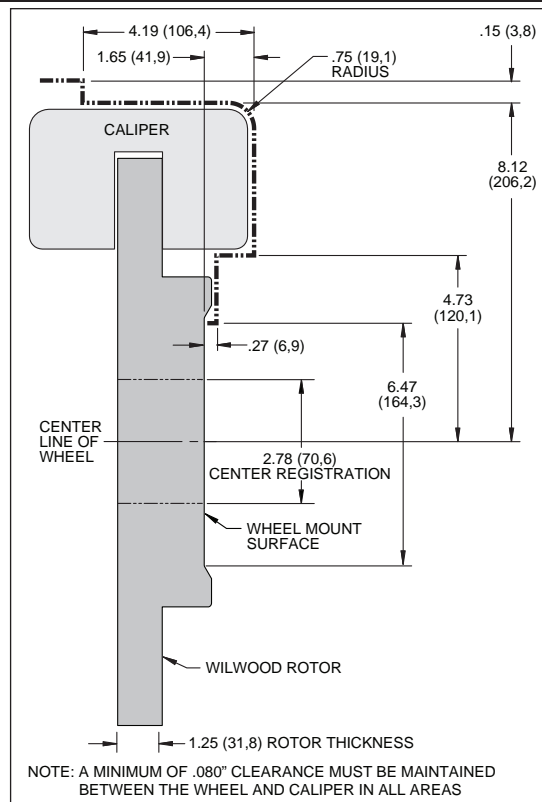

Figure 2. Wheel Clearance Diagram
- This kit will fit most 18" and larger wheels, please refer to wheel clearance diagram (Figure 2, page 3) for your specific requirements. For ALL other wheels, consult the wheel clearance diagram (Figure 2, page 3) to determine compatibility. Parts that have been installed may not be returned or exchanged.
• Verify your wheel clearance using Figure 2.